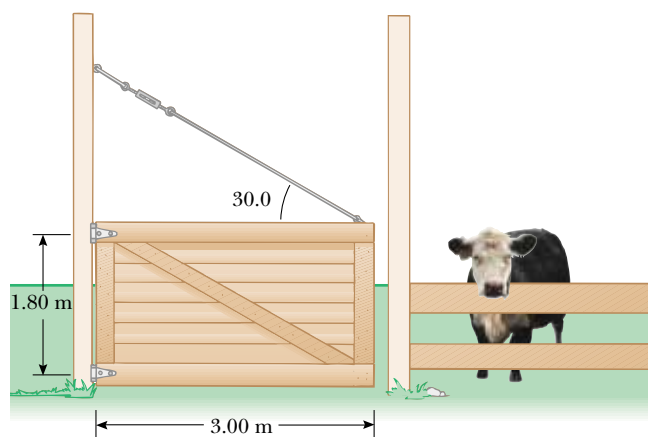

Figure P12.44
44. A farm gate (Fig. P12.44) is 3.00 m wide and 1.80 m high, with hinges attached to the top and bottom. The guy wire makes an angle of 30.0° with the top of the gate and is tightened by a turnbuckle to a tension of 200 N. The mass of the gate is 40.0 kg. (a) Determine the horizontal force exerted by the bottom hinge on the gate. (b) Find the horizontal force exerted by the upper hinge. (c) Determine the combined vertical force exerted by both hinges. (d) **What If?** What must be the tension in the guy wire so that the horizontal force exerted by the upper hinge is zero?